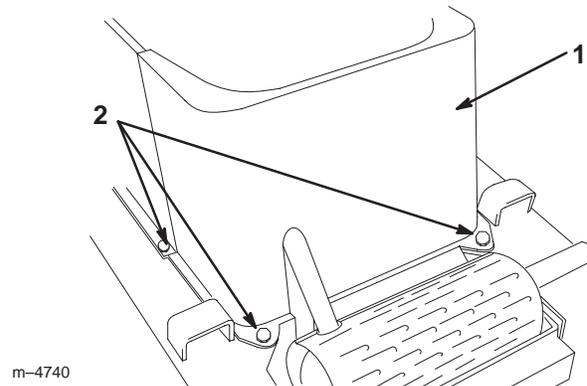

Figure 20
2. Remove the four bolts securing the front screen to the traction unit frame and remove the front screen (Fig. 20).